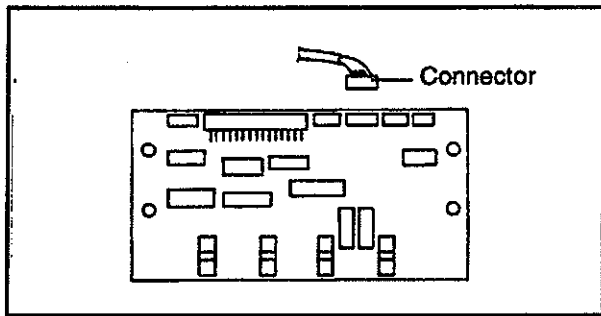

FIG.1
- (2) Connect the sensor connector and secure the cord with the fixture (Figs. 1 and 2).
- (3) Mount the top cover and side cover L.